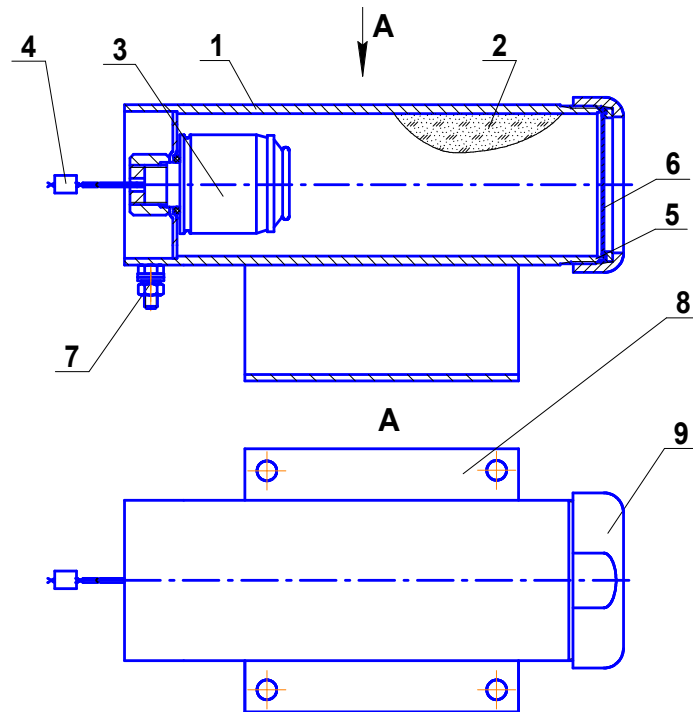
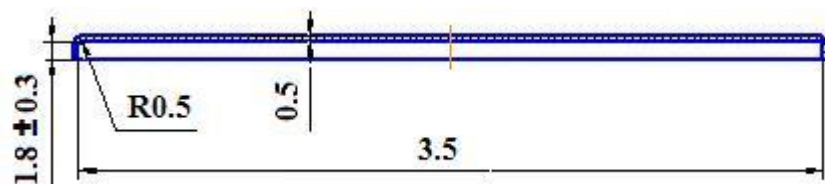

Figure 1
Figure 4
4.1.1 The MPP (see Figure 1) consists of a case **1** where fire extinguishing powder (OP) **2** and cold gas source (CGS) **3** with electric triggering element **4** are placed. In the front part of the case there is a nozzle-sprayer **5**, the output hole of it is closed by membrane **6**. The module has grounding clamp **7**.
7.3 On reloading and assembling the MPP after its operation, it is necessary to replace the CGS 3 (Figure 1) CGS-0.65(M)-01 CIAB 066614.020.000 TU, fill in the MPP case with fire extinguishing powder and place the membrane 6 (Figure 1) made according to the drawing (Figure 4), Sheet AMuH2-
0.5 GOST 21631-76. After placing the membrane, tighten the nut **9** (Figure 1) under load ( $150 \pm 10$ ) N·m.